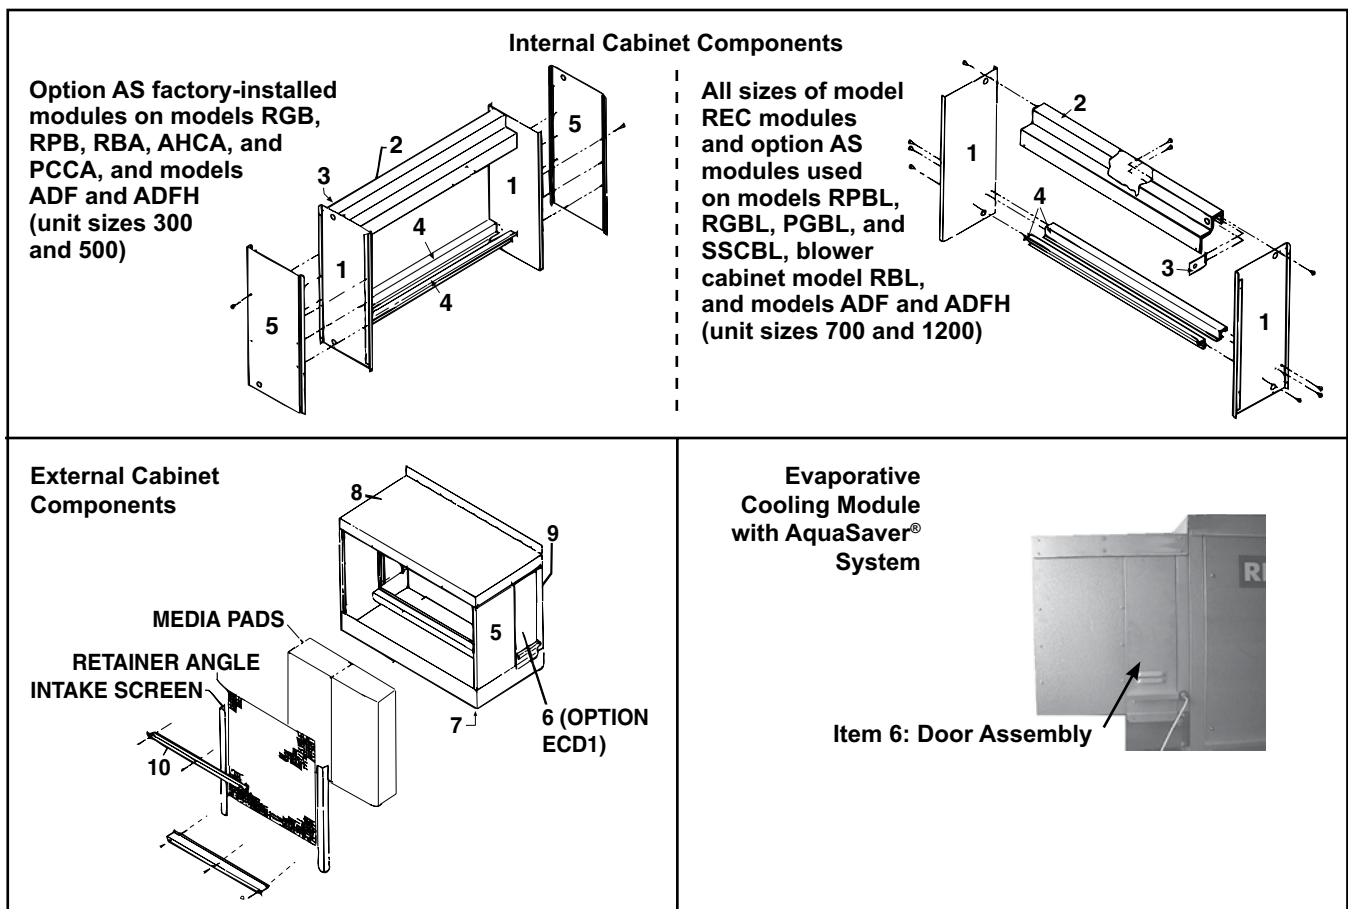

Figure 5. Cabinet Components (Refer to Table 7)
*Quantity is one (1) unless otherwise indicated.
**Shown in Figure 5.